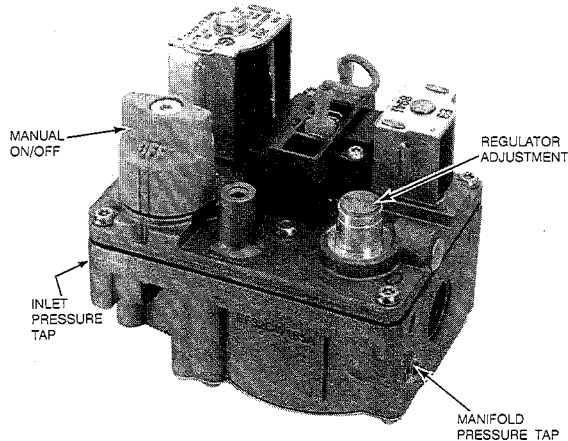

Fig. 17—Redundant Automatic Gas Valve
- (1.) Remove regulator adjustment seal cap. See Fig. 17.